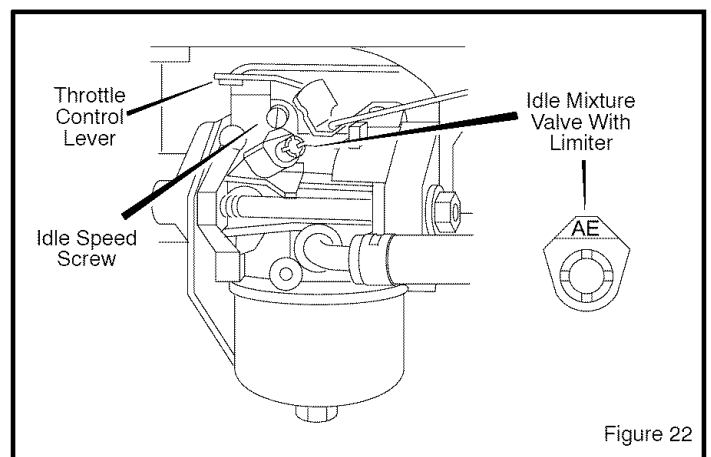

Figure 22
3. Rotate the carburetor **throttle control lever** against the **idle speed screw** and hold it (see Figure 22). Then, turn the **idle speed screw** to obtain 1750 rpm (use a tachometer).